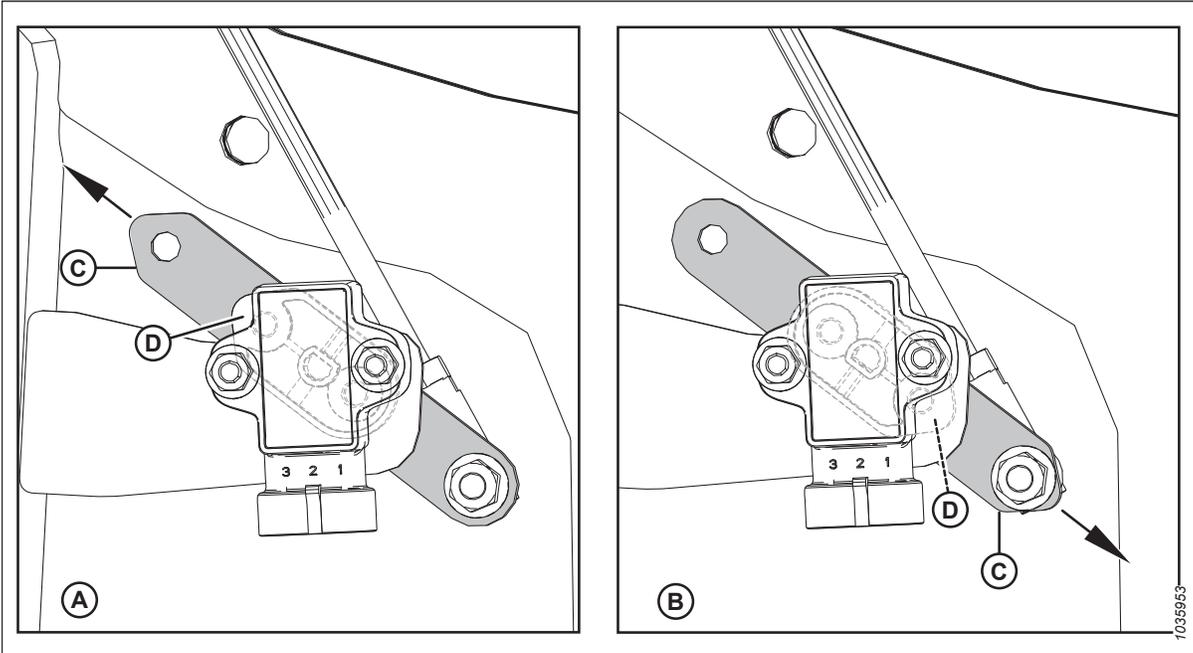

Figure 3.149: Sensor Arm/Pointer Configurations
4. Ensure that sensor arm (C) and pointer (D) are configured properly for the header. For instructions, refer to Figure 3.149, page 142.